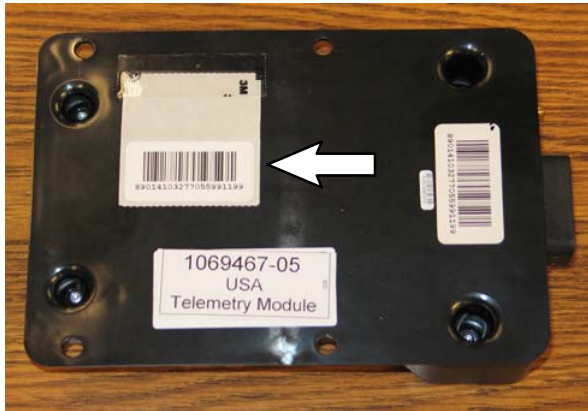

FIG. 3
- Remove the additional SIM label from the back of the control box (1) and set label aside in a safe place. The number on the SIM label will be needed for activating the machine. (Fig. 3)